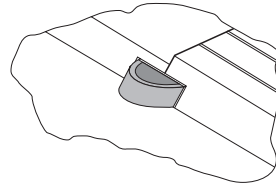

Figure 15
- Push the bolt past the pressure point in as far as the stop (Fig. 15).